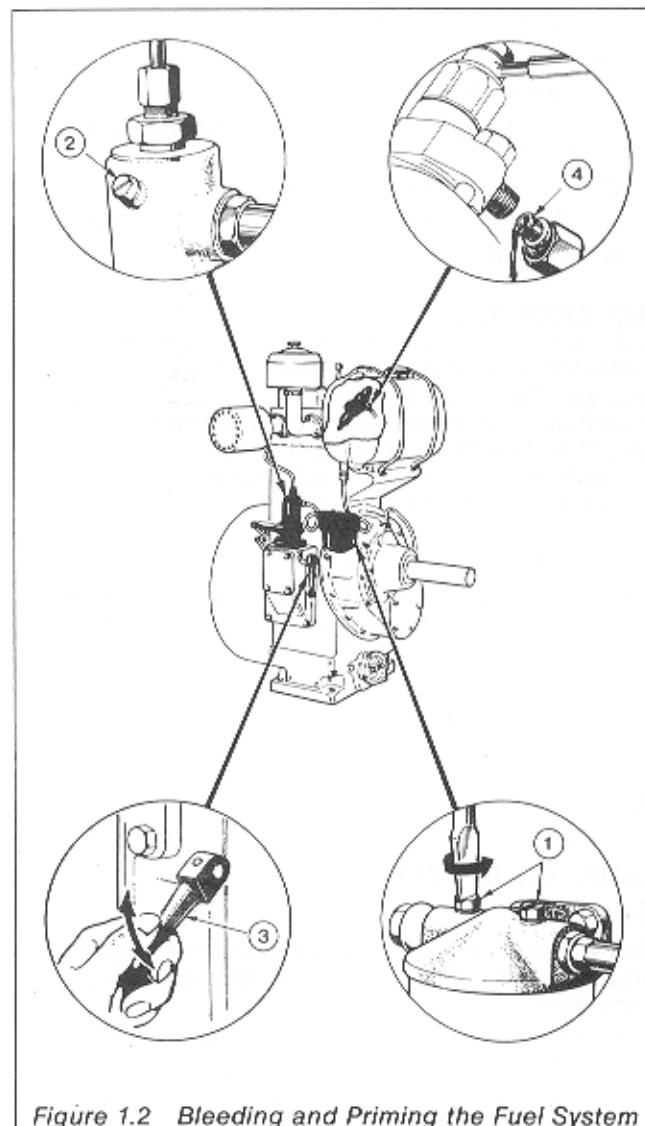

Figure 1.2 Bleeding and Priming the Fuel System
1.18 To bleed and prime the fuel system, each cylinder (in the case of two cylinder engines) must be done in turn. The flywheel TDC mark must be set for the appropriate cylinder about half a revolution away from the pointer before top dead centre. If a fuel lift pump is fitted fuel will not flow unless the fuel lift pump priming lever is operated. With reference to Figure 1.2 carry out the following procedure: